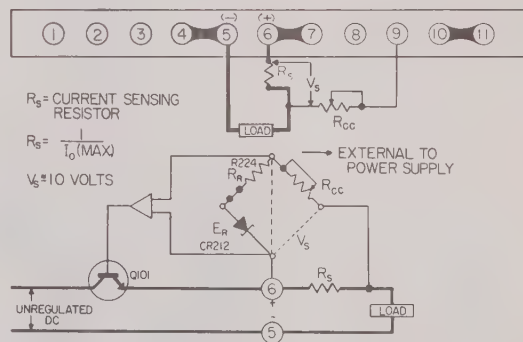

FIG. 3-7 CONNECTIONS FOR CONSTANT CURRENT OPERATION
- 3-23** In the constant current operating mode, the voltage comparison bridge is interconnected with an external current sensing resistor,  $R_s$ , and a current control,  $R_{cc}$  (as shown in Fig. 3-7), to maintain a constant voltage drop across  $R_s$ . In this way, an adjustable constant load current is obtained. Characteristic of the constant current supply is the ability to change its output voltage automatically in order to maintain a constant current through a range of possible load resistances. The range of output voltage that the supply can deliver and simultaneously maintain constant current, is referred to as the "COMPLIANCE VOLTAGE"
### 3-26 Procedure (Refer to Fig. 3-7)